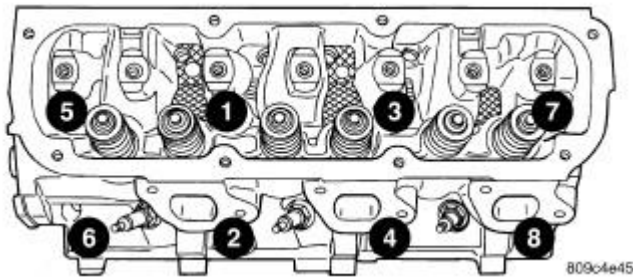

Fig. 58: Cylinder Head Removal/Tightening Sequence
5. Tighten the cylinder head bolts 1-8 in the sequence shown in illustration. Refer to **Fig. 58**. Using the 4 step torque turn method, tighten according to the following values: